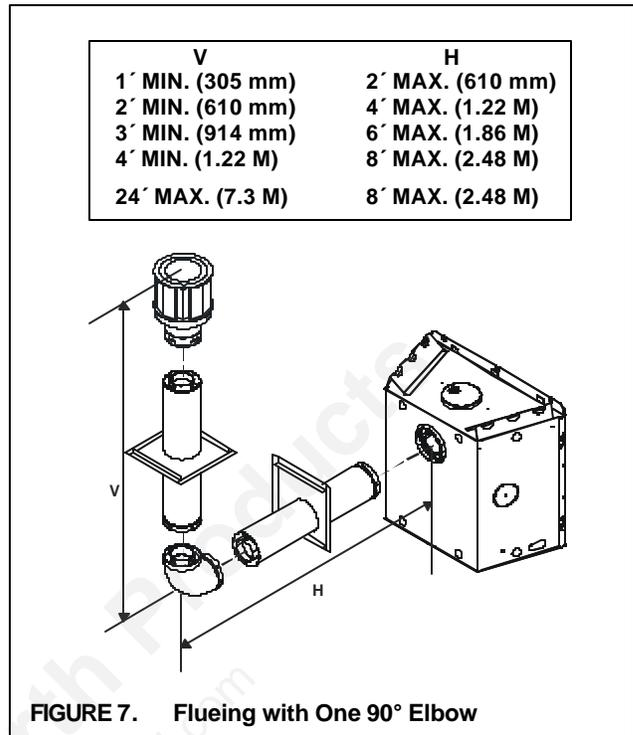

FIGURE 7. Flueing with One 90° Elbow
Figures 7 and 8 show an installation using one (1) 90-degree elbow. Dimension V is listed as **MINIMUM** vertical dimensions and dimension H is listed as corresponding **MAXIMUM** horizontal dimensions.